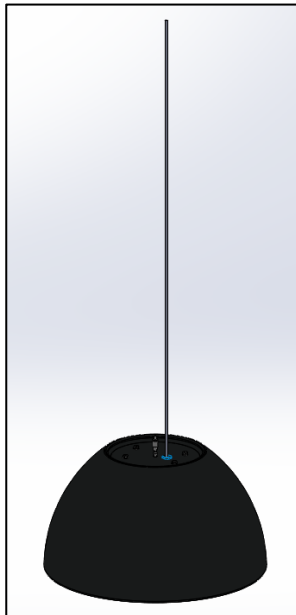

FIG. 2 – NOVA LUMINAIRE
1. NOVA LUMINAIRE with CORD attached. (Pre-assembled as shown in FIG. 2)